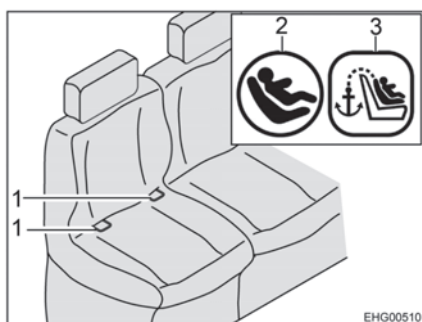
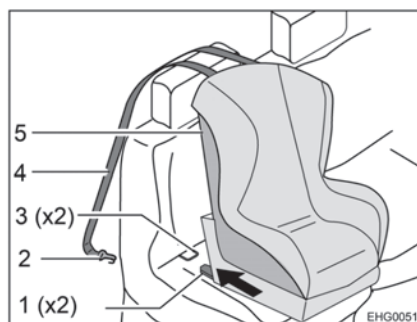

Fig. 8 Seat with ISOFIX
Fig. 9 Fastening with top tether
- Have the connectors (Fig. 9,1) snap into the retaining clips (Fig. 8,1 and Fig. 9,3). While doing this, a distinctive click must be heard.
- With a strong jerk, check if the child seat (Fig. 9,5) is firmly connected.
- Route top tether belt (Fig. 9,4) over the headrest of the vehicle seat.
- Hook the fixing hook (Fig. 9,2) onto the attachment point on the back of the vehicle seat.